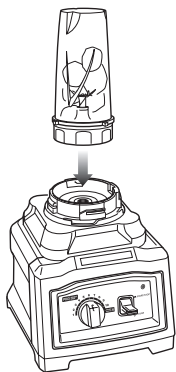
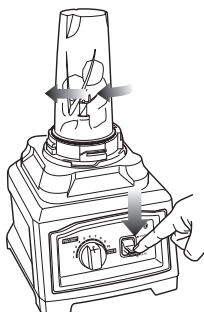

Fig. 10
Fig. 11
- 4 Turn the single serve cup upside down and place it onto the motor base, aligning the tabs on the cup with the motor base. (Fig. 10) Turn clockwise until the cup locks in place, the unit is ready for use. (Fig. 11)
- 5 Turn the Variable Speed Dial to the Single Serve icon. The single serve cup only operates at one speed regardless of which number is chosen on the dial. Press down on the "Start/Stop/Pulse" toggle in short intervals to pulse, or push up on the toggle to run continuously for 1 minute, both at high speed. (Fig. 11)